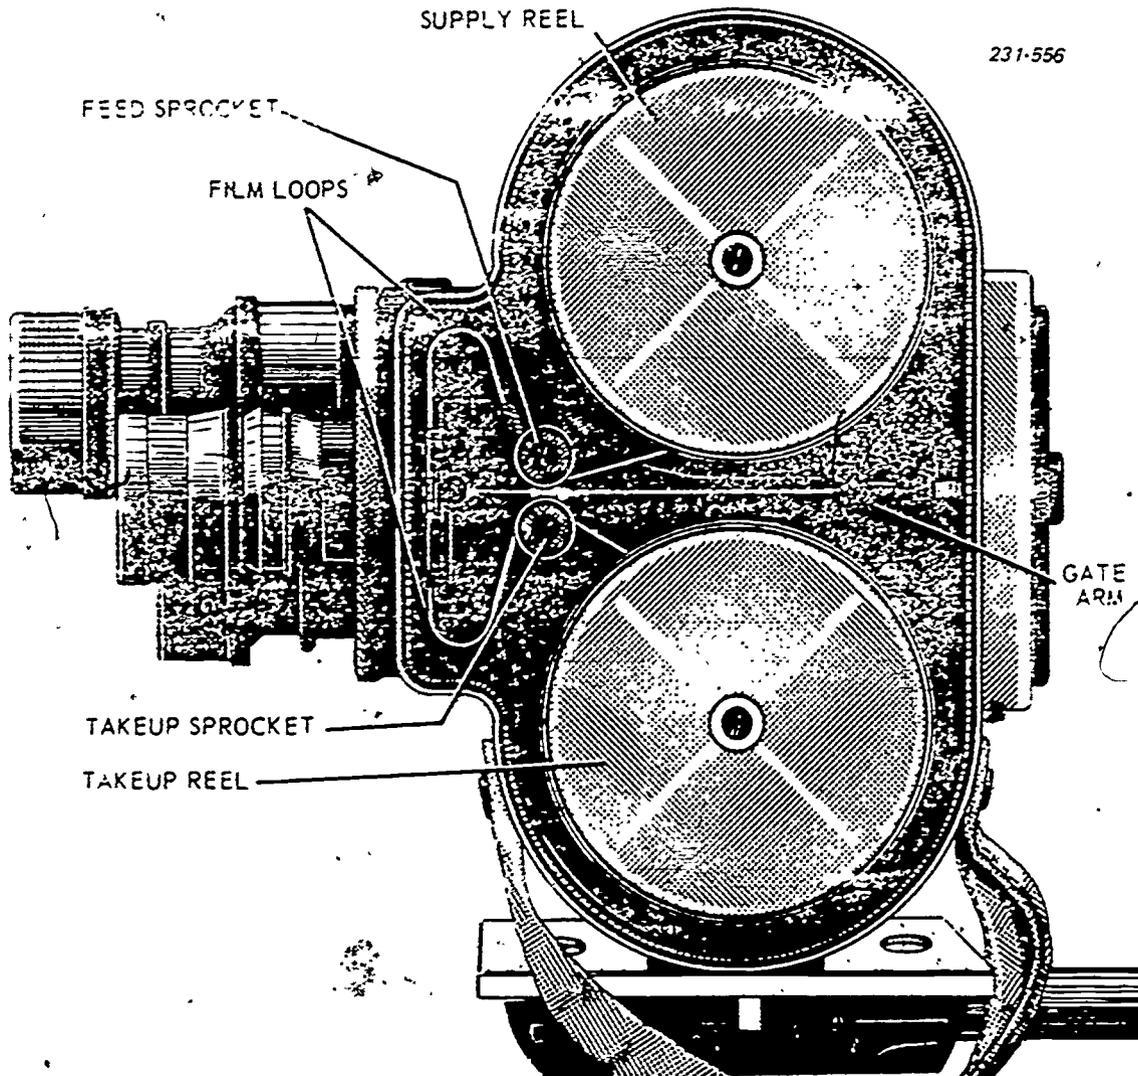

Figure 3-60. B-1A camera (internal).
4. Thread the film around the feed sprocket so that it is between the upper film-guide shoe and the sprocket. Leader perforations must be engaged with the sprocket teeth (see fig. 3-60).
5. Place the leader in the film gate channel, shown in figure 3-60, leaving enough slack above to form the upper loop. The extreme top of the loop should be about 1/4 inch from the metal camera shell.
6. Leaving the lower loop approximately the same size as the upper loop, insert the leader between the take-up sprocket and the lower film guide shoe. Engage the sprocket teeth with the perforations in the leader as shown in figure 3-60.
with the two shuttle teeth at the bottom of the aperture plate. Make sure that the leader perforations still are engaged with the feed and takeup sprocket teeth and with the shuttle teeth. Check to see that the upper and lower loops are still the proper size; then close the film gate by pushing the film gate arm toward the front of the camera as far as it will go as illustrated in figure 3-60.